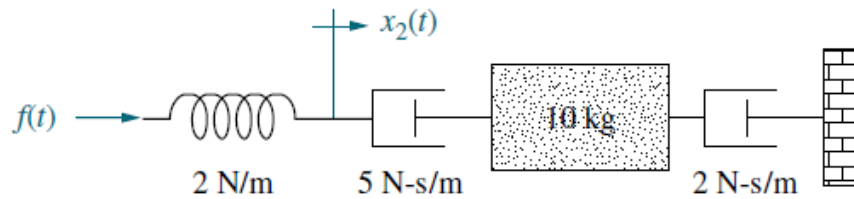

FIGURE P2.11
25. Find the transfer function, $G(s) = X_2(s)/F(s)$, for the translational mechanical system shown in Figure P2.11. (Hint: place a zero mass at $x_2(t)$.) [Section: 2.5]